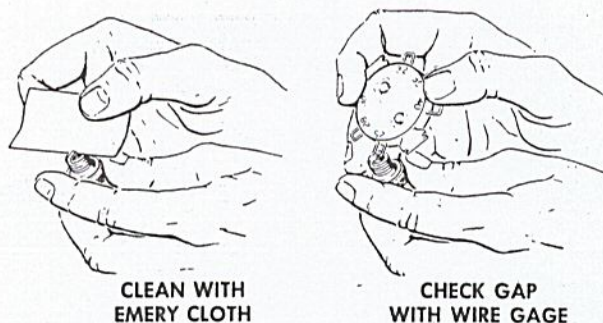

FIGURE 9
3. Clean the electrodes with emery cloth or very fine sandpaper. Blow all the dust and grit away. (Figure 9).